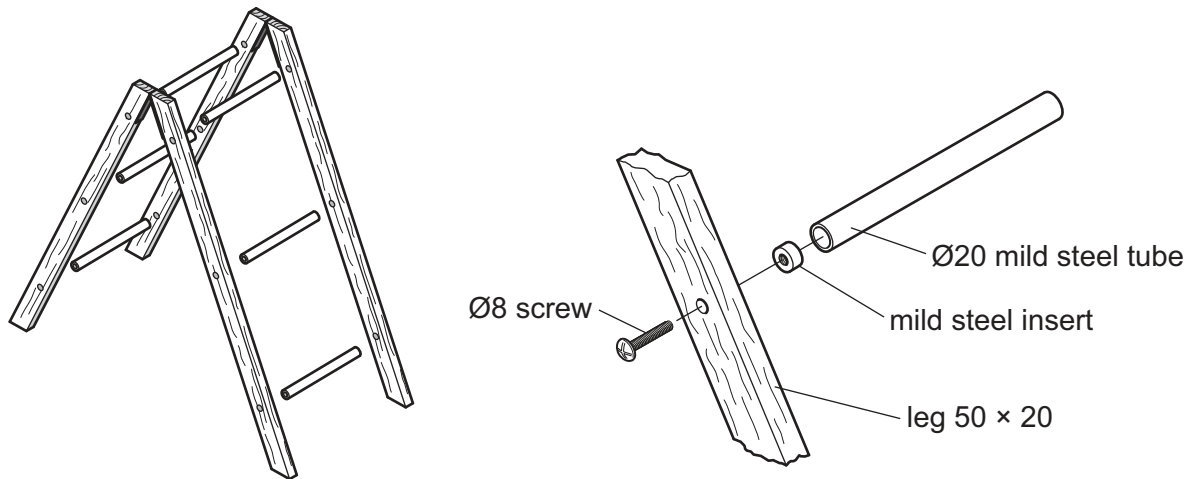

Figure 13.2
- (c) Figure 13.2 shows how the front and back legs are joined.